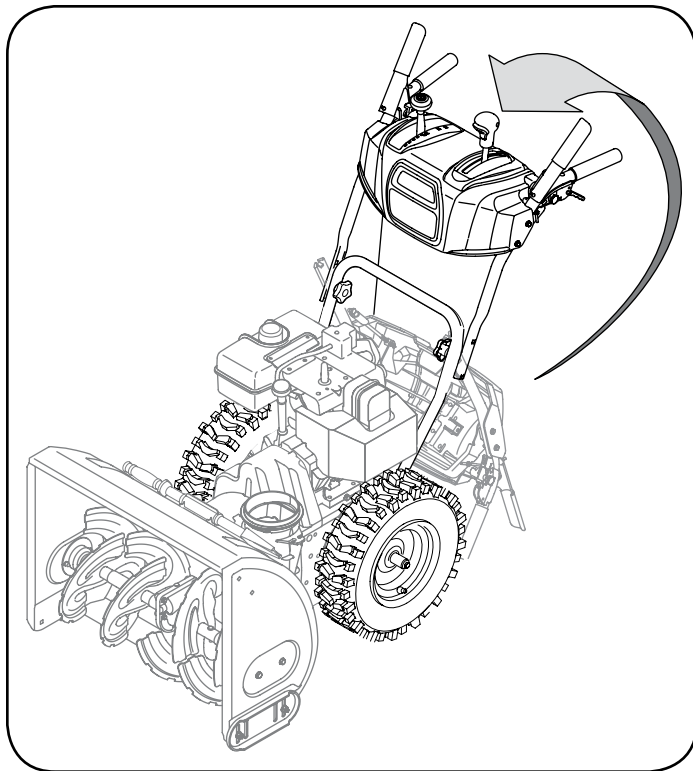

Figure 1
1. Observe the lower rear area of the snow thrower to be sure both cables are aligned with roller guides before pivoting the handle upward. See Figure 1.